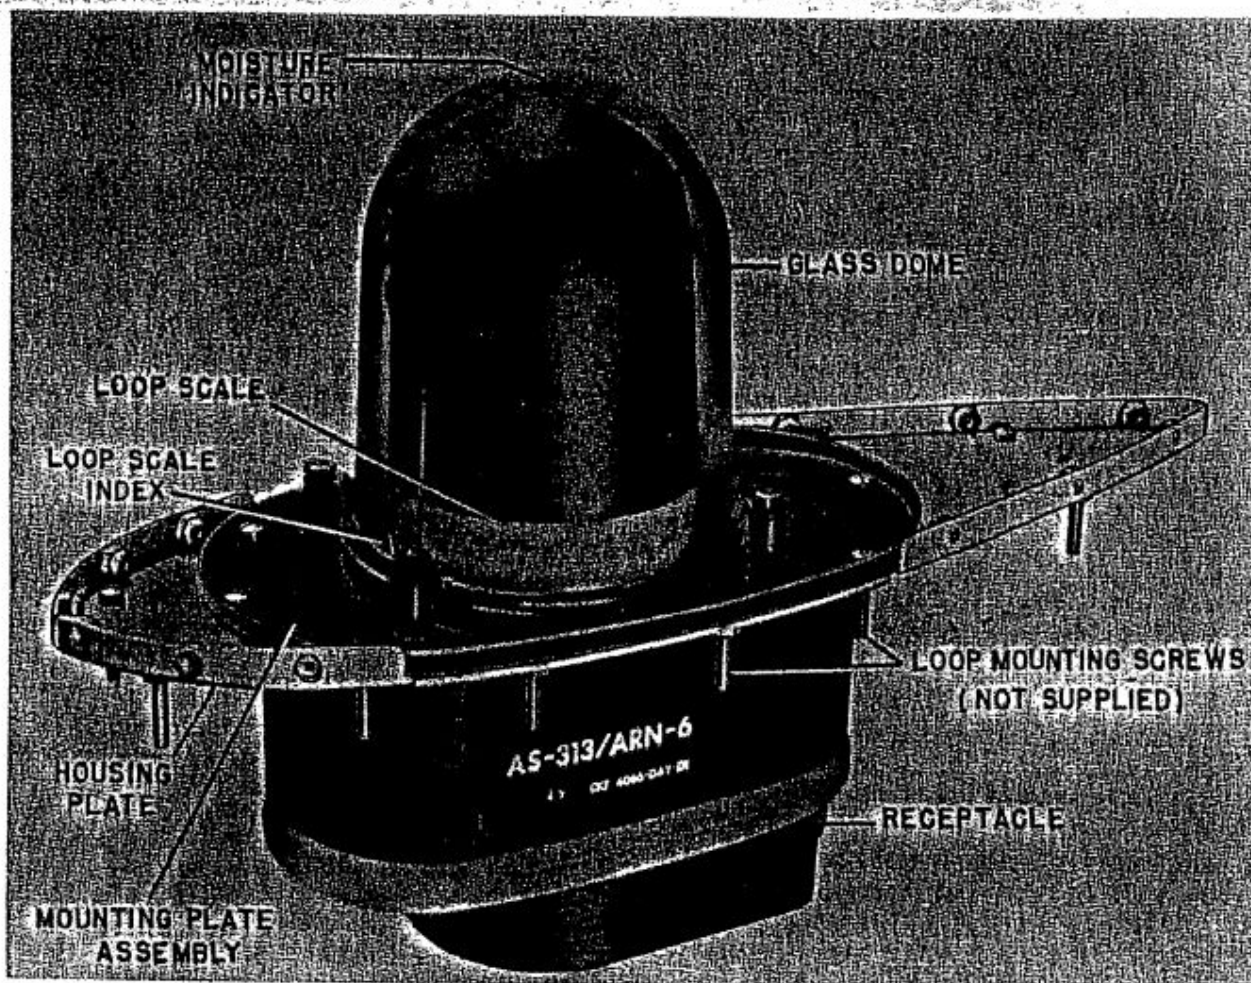
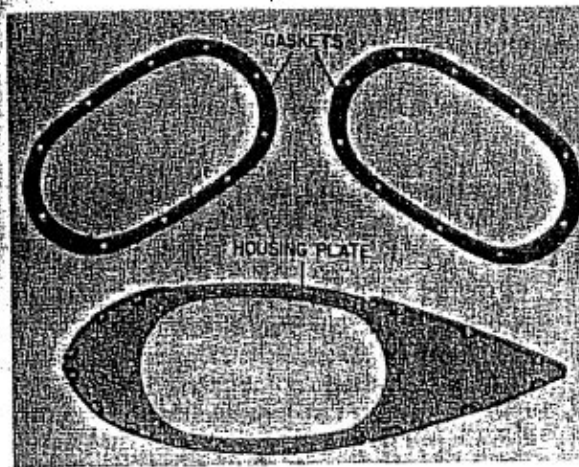

Figure 2-1. Loop AS-313(1)/ARN-6, Housing Removed
Figure 2-2. Loop AS-313(1)/ARN-6,
1. Remove the loop housing in order to see the loop scale (see figure 2-1). Use the "LOOP L-R" switch and rotate the loop to 15 degrees as indicated on the loop scale. Adjust the "VAR" knob on the indicator until the azimuth zero is at the index. Check the indicator pointer reading, which should be 15 degrees if the loop compensator is adjusted for zero correction. Rotate the loop to 45 degrees as indicated on the loop scale and again check the indicator reading. Repeat this check in 30-degree steps for one complete rotation of the loop.
(b) INSTALLATION.—Four holes are provided for holding the housing plate to the skin of the aircraft while mounting the loop (see figure 2-1) and ten holes are provided for the actual fastening of the loop and housing plate to the aircraft (see figure 6-17). A hole must be cut in the skin to accommodate the base of the loop, which projects into the fuselage about 5 inches. The housing is placed over the projecting glass dome and fastened to the housing plate by means of 12 screws. Two gaskets are supplied (see figure 2-2), one to go between the loop mounting plate and the housing plate, and the other to go between the housing plate and the skin of the aircraft. These gaskets are intended to prevent water, dirt, etc., from entering the fuselage. In locating the mounting holes for the No. 10 mounting screws, the fore-and-aft holes must be exactly in line with the center-line of the fuselage (within 0.25 degrees). In some cases the loop may be mounted slightly to one side of the center-line, but the axis of the housing must still be parallel to the center-